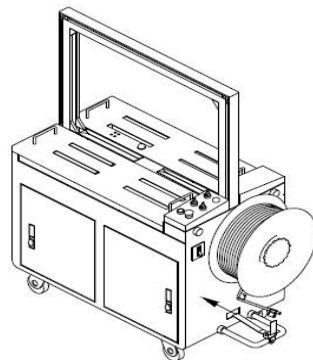

Fig4-2
- ① Load the bailing strap on the strap stool. Load the bailing strap according to the course shown as Fig 4-2. After the head enters the jaw to insert the strap, turn the knob in the pre-strap-feeding mechanism in clockwise direction. Make the two tape wheels far from a distance to pass strap head through two tape wheels and enter strap storehouse. Pull the strap head by hand and then turn the emergency stop button on the control panel and the bailing strap will automatically be full of strap storehouse.